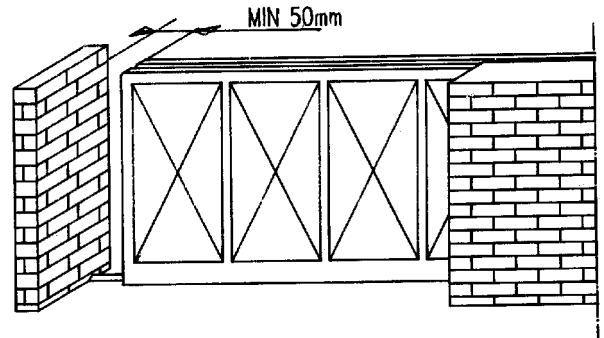

Fig. 12
N.B.: Wire gauge and number of wires are indicated on the drw (fig. 12), increase section for lengths more than 100 mt.